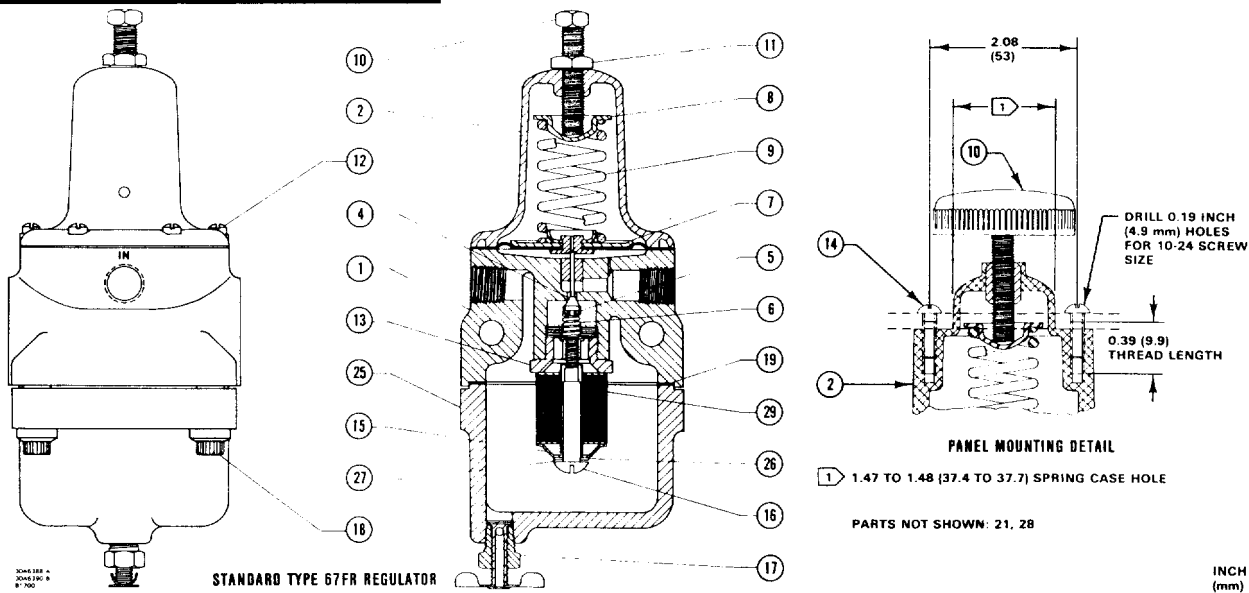

Figure 2. Type 67F and 67FR Regulator Assemblies
With a regulator that is shipped separately, make sure that there is no damage to or foreign material in the regulator, and that all tubing and piping has been blown free. Install the regulator so that flow through it is from IN to OUT as marked on the regulator body. Cutout dimensions for a panel-mounting regulator are shown in figure 2.
For best filter drainage, orient the drain valve (key 17, figure 2) to the lowest possible point on the filter cap (key 25, figure 2). To keep the spring case vent from being plugged or the spring case from collecting moisture, corrosive chemicals, or other foreign material, orient the vent to the lowest possible point on the spring case or otherwise protect it. Filter/drain valve orientation may be changed by rotating the filter cap with respect to the regulator body, and spring case/vent orientation may be changed by rotating the spring case with respect to the body. Any Type 67F or 67FR regulator with a tapped spring case may be remotely vented by installing obstruction-free tubing or piping into the 1/4-inch NPT vent tapping. Provide protection on a remote vent by installing a screened vent cap into the remote end of the vent pipe.
Key numbers are referenced in figure 2.
17, figure 2) should be opened periodically to empty accumulated moisture from the filter cap (key 25, figure 2).
This procedure is to be performed if changing the control spring for one of a different range, or if inspecting, cleaning, or replacing any other parts. Key numbers are referenced in figure 2.
PARTS LIST (figure 2)